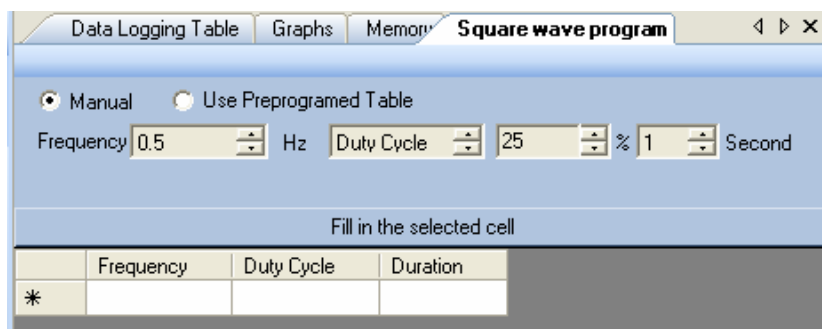

Figure 18 Square wave program operations
There are two types of operations as shown in Figure 18:
- 1 Set the frequency, duty cycle/pulse width and duration accordingly (Figure 18).